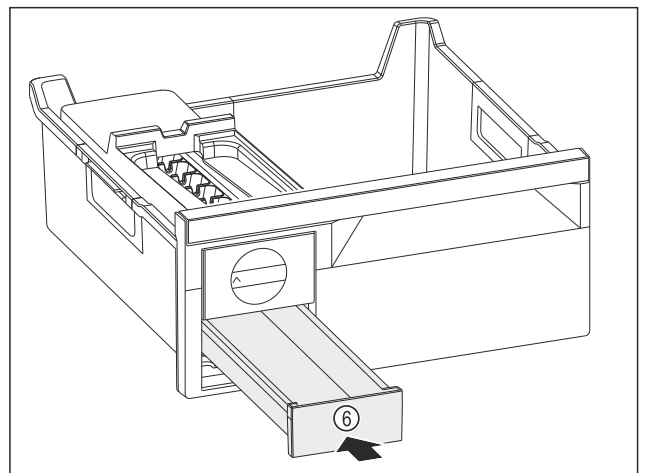

Fig. 96
- ▶ Insert the ice cube tray Fig. 96 (6).